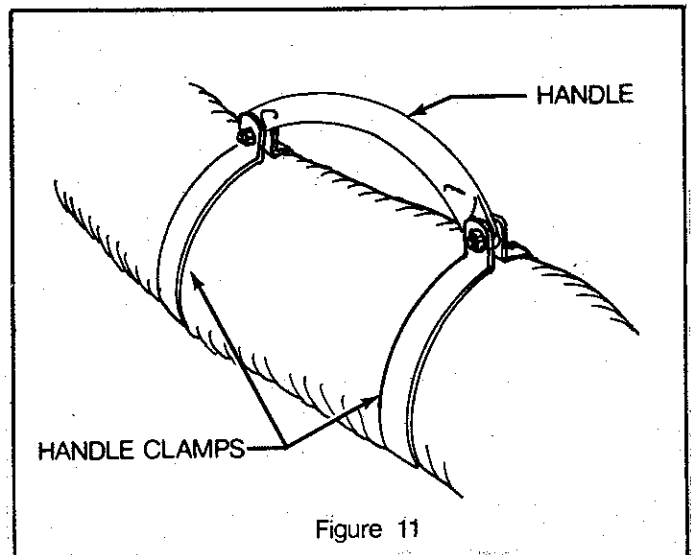

Figure 11
2. Install the hose handle clamps the desired distance from the pickup end of the hose and attach the handle. (Figure 11.)